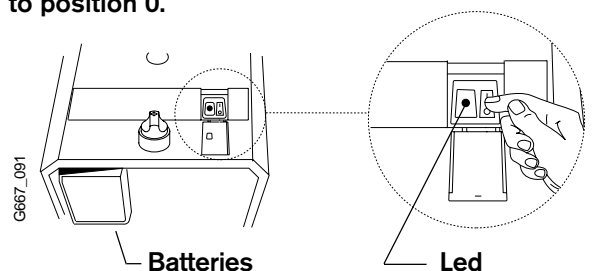

Figure 10
2. The gas valve must be shut off by putting the ON/OFF switch to position "0". Wait five (5) minutes to clear out any gas. If you smell gas, STOP! Follow "B" in the safety information above. If you do not smell gas, go to the next step.
4. Set the ON/OFF switch (flip down cover plate on frontal panel strip) market 1/0 to the 1 position. In this position, the water heater is ready to use. ( See Figure 10.)
The On/Off switch is located behind the flipdown cover plate on the front panel strip. See fig. 10.